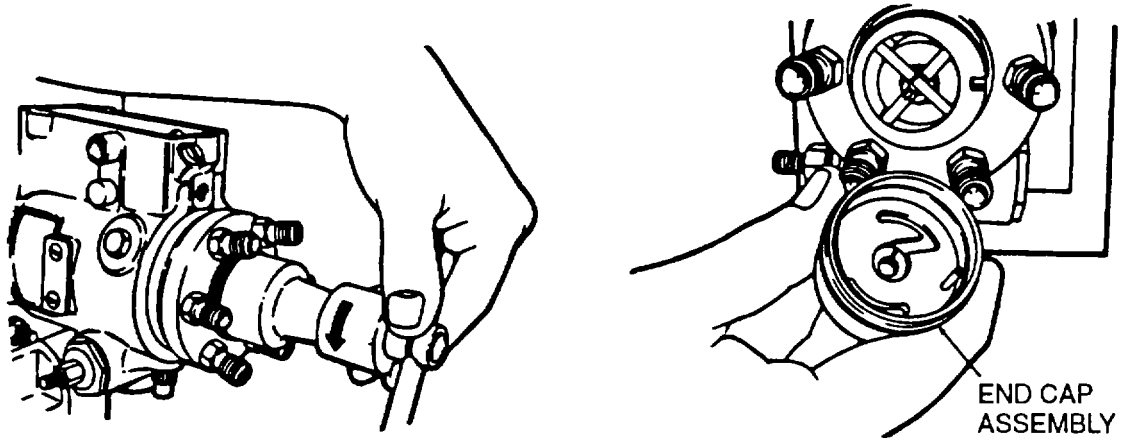

FIGURE 3-72. Removing Transfer Pump End Cap
- y. Remove valve plate, element strainer (6) and regulator assembly (8), refer to FIGURE 3-72.